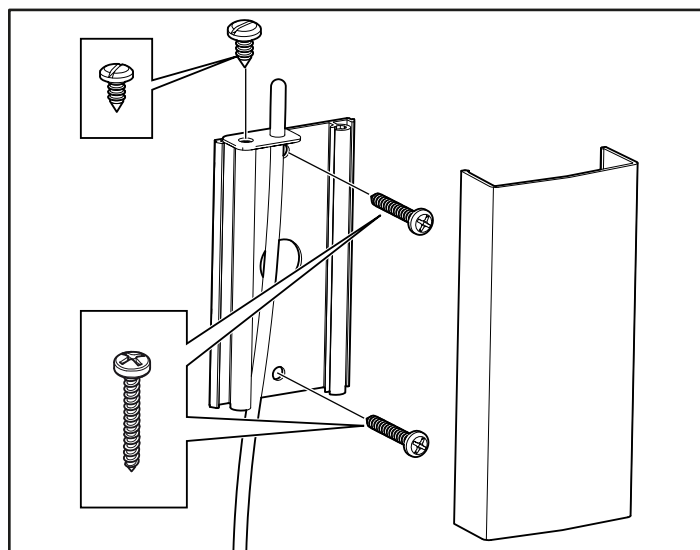
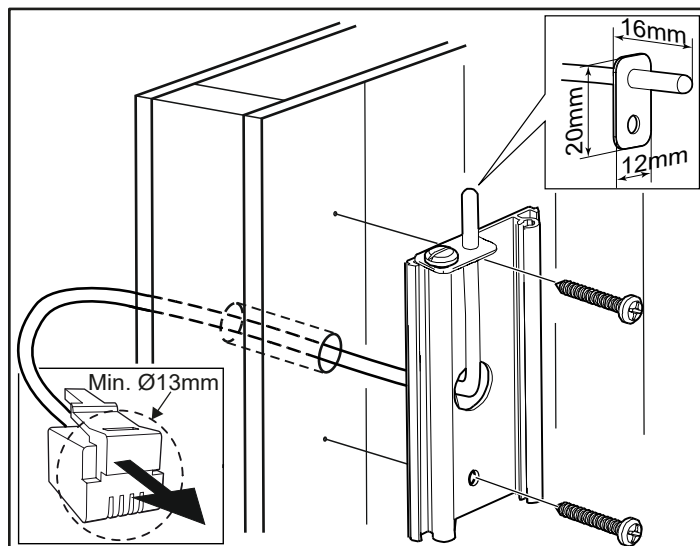
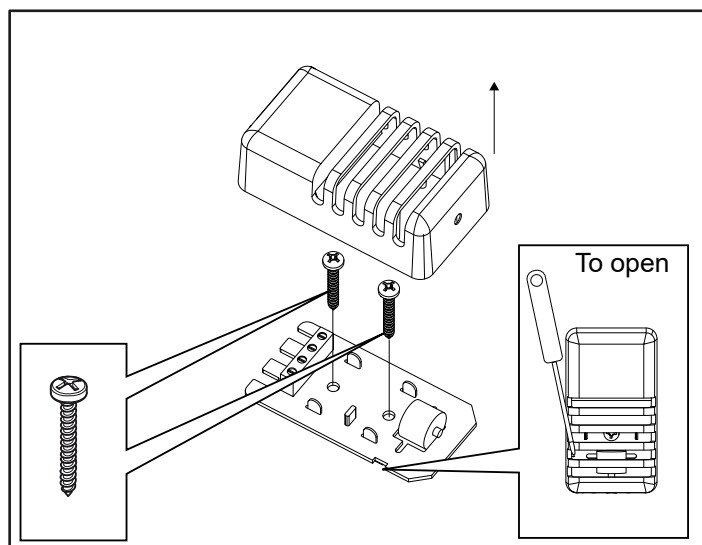
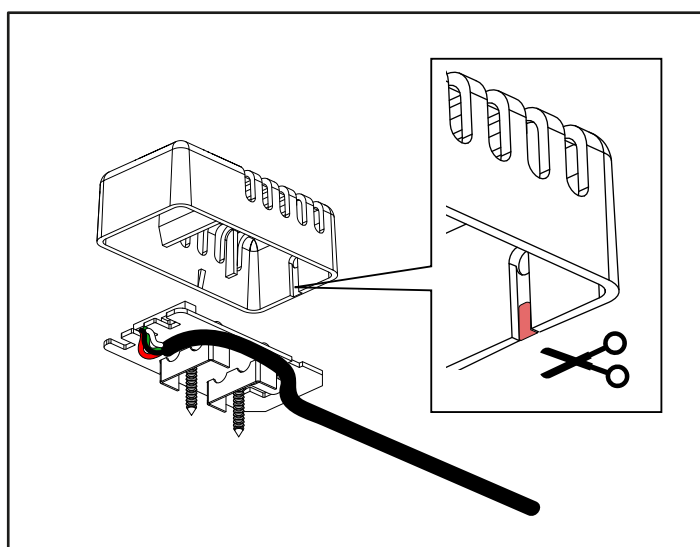

Figure 11: Installing the sensor, single heater
Figure 12: Wiring through the wall.
Fig 13: Installing the sensor, double heaters
Fig 15: Visible routing on the wall, cut an opening in the cover.
- 8A. Install the sensor on the wall, single heater, see Fig 11. The thermistor wire may also be passed through the wall. Seal any holes in the wall behind the sensor, see Figure 12. The thermistor wire may be extended outside the sauna using low voltage wire (2-lead).
- 8B.** Install the sensor on the wall, double heaters, see Fig 13. The thermistor wire may also be passed through the wall. Seal any holes in the wall behind the sensor, see Figure 12. The thermistor wire may be extended outside the sauna using low voltage wire (4-lead). If you want to route the cable inside the sauna, see fig. 15.